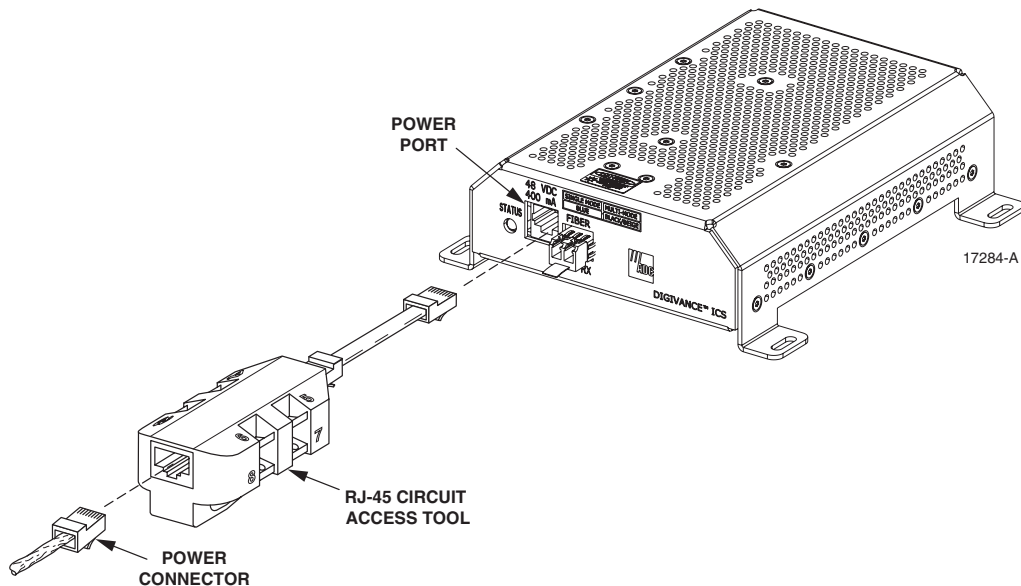

Figure 28. Connect RJ-45 Circuit Access Tool
2. Connect the RJ-45 circuit access tool to the DRU as shown in Figure 28.
3. Connect the DC power cable to the RJ-45 circuit access tool (see Figure 28).